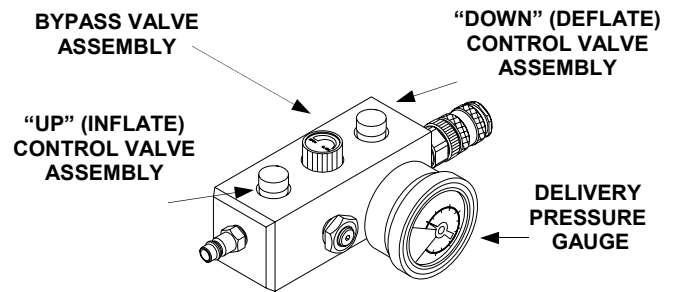

Figure 1-7. Single Push-button Safety Relief and Control Valve with Bypass
c. The single safety relief and control valve with bypass (figure 1-7) is a single input/single output controller incorporating quick disconnect hose fittings and single push-button controls to apply and release air pressure to a single lift bag. One gauge is provided to monitor the air pressure applied to the lift bag(s) and a 118 psi (8.1 Bar) relief valve is incorporated to limit the applied air pressure. Inflation and deflation is accomplished by depressing the associated valve spring loaded push-button. The bypass, located between the inflation and deflation valves, is used to "bypass" the inflation valve. This allows a continuous flow of air supply to a lift bag without having the operator manually keep the inflation valve open by constantly depressing the inflation valve. The use of the bypass compensates for any pressure drop inside of the lift bag that can be caused by a shifting load, undetected air leaks, etc... It is activated by turning the bypass knob counter-clockwise.